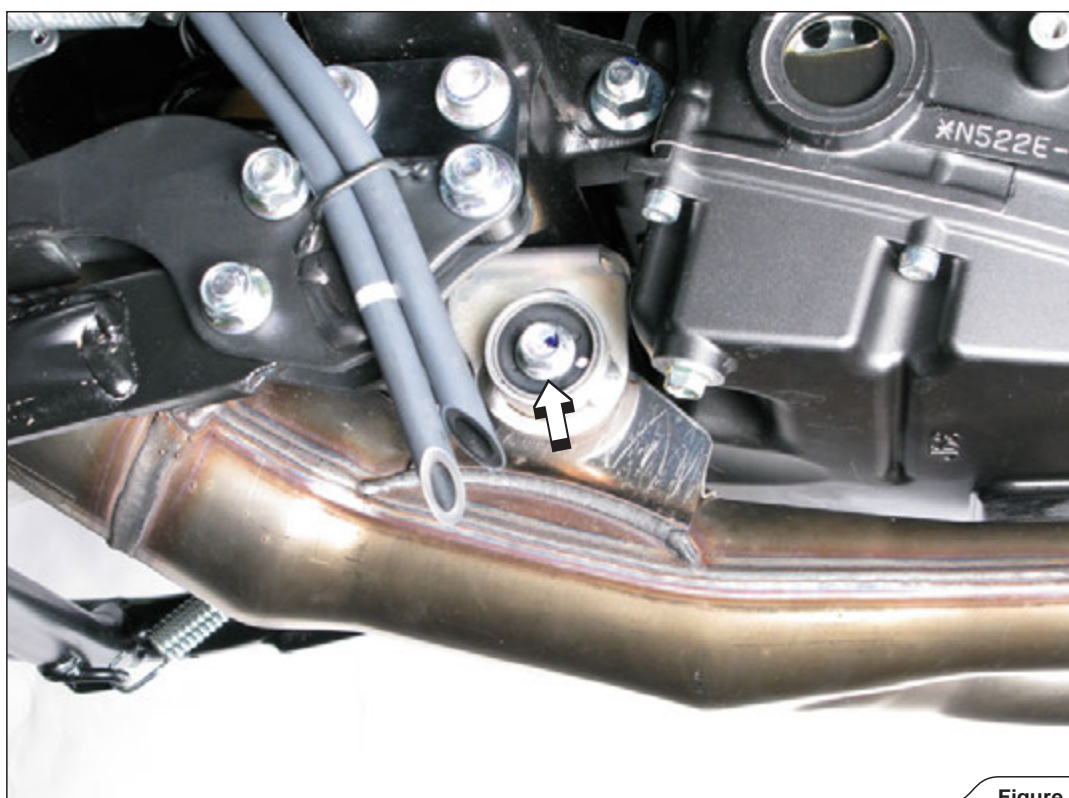

Figure 6
5. **For Akrapovič Racing only:** unscrew the marked stock header pipe bracket bolt (Figure 6).